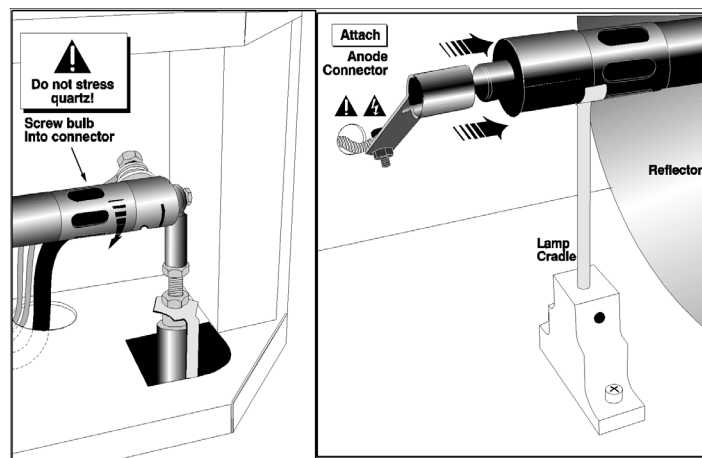

Figure 6-1 Install Bulb
- With protective clothing and shield on,** install the new lamp by inserting the threaded cathode (-) end of the lamp into the negative lamp connector nut located in the rear of the lamp compartment and screw in fully (**Figure 6-1, left**). Hand-tighten only. **Caution!** *Handle by the cathode/anode end shafts only, never the glass. Do not over-tighten. Do not stress the glass.*
- Rest the anode (+) end of the lamp on the lamp cradle (**Figure 6-1**) and slip the positive lamp connector over the bulb end.